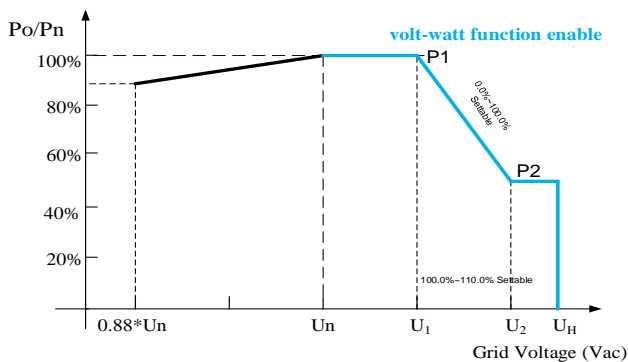

Figure 10-3-2 SCA25KTL-DO/US-208 Derating Curve of Grid Voltage
2) When the volt-watt function is enable, the grid voltage is within 100%~106% ($U_n \sim 1.06*U_n$) of the Rated Output Voltage, the inverter output power (P_n) may reach 100%. When the grid voltage is lower than the Rated Output Voltage or more than 106% U_n , the inverter will limit the AC Output Current and the output power (P_n) will begin to derate, shown in Figure 10-3-2.